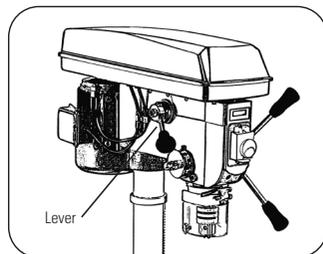

FIGURE 8.14b
- The speed adjustment on the FSBE 16 TORK model is done using the lever shown in (figure 8.14b), with no need for belt adjustments.